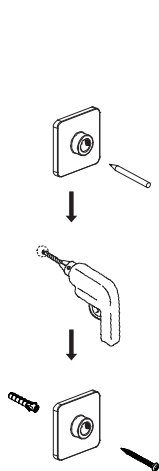

Figure 8
b) Install the wall holder ⑯ on the marked position (Figure 8). Cover the thermostatic shower bar to prevent the dust. Connect the pipe connector ⑤ to the wall holder and use the Allen key to secure (Figure 9).